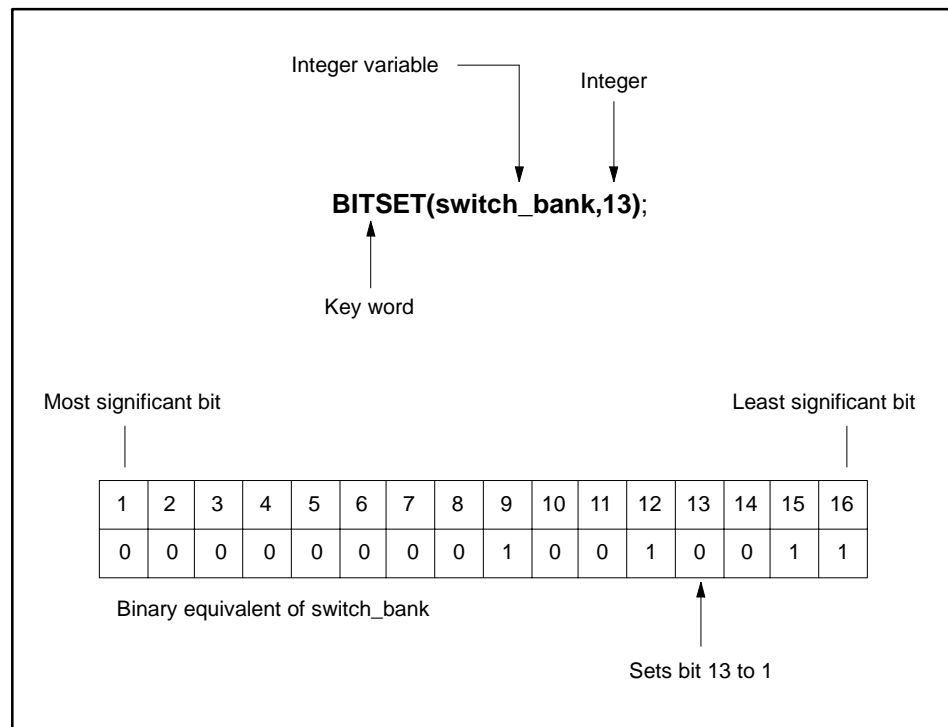

Figure 11-10 BITSET Procedure
- The integer specifies which bit in the binary equivalent of the integer variable is the one that you want to set. The value must be a number between 1 and 16. See the example in Figure 11-10.
Figure 11-10 shows how the BITSET procedure works.